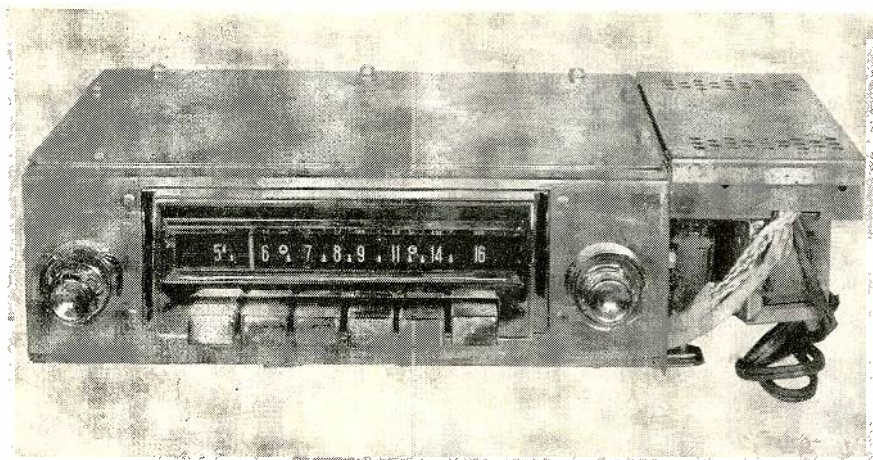
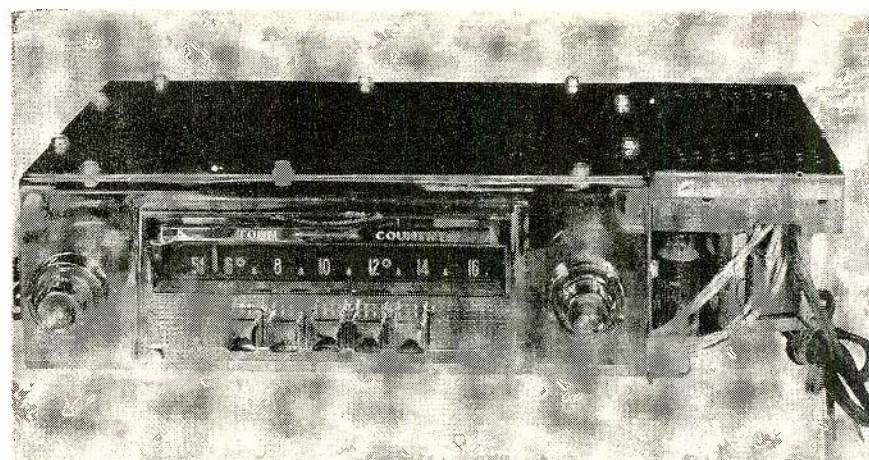

Fig. 1—Model 844, an eight tube mechanical push-button chassis.
Fig. 2—Model 912, a nine tube automatic signal seeking chassis.
**B**ASICALLY, all 1955 & 1956 Chrysler radios employ the same eight tube chassis. However, the '55 models are for 6 volt operation while the '56 are for 12 volt. Where HR is added to the model number, it signifies a phono socket for the addition of a Highway Record-player. Model 844 (Fig. 1) and Model 835 which is similar in appearance, are straightforward eight tube mechanical push-button chassis. Model 912 (Fig. 2) and Model 902 which is similar in appearance, are nine tube automatic signal seeking sets. A twelve transistor chassis. Model 914, similar in appearance to Fig. 2, incorporates the features of the 912 and 902 receivers. Following are the Mopar model numbers and the corresponding Philco model numbers: